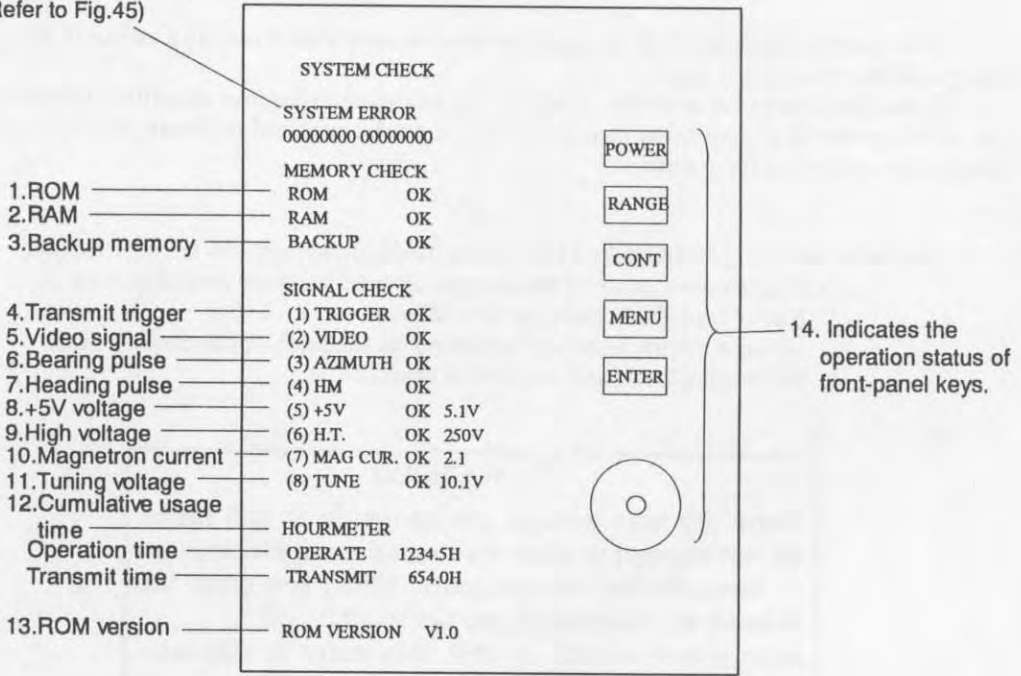

Fig. 44 Self-check screen
- (1) Press the MENU key to bring up a menu screen.
- (2) Using the cursor key, move the menu bar to "SETUP" and the box cursor to "SYSTEM CHECK".
- (3) Press the ENTER key. The screen shown in Fig.44 will appear.
- (4) While watching the screen, check the following:
- ① Whether all items are marked "OK". (If any item is marked "NG", the indicated location may be faulty.)
- ② Press a front-panel key and see if the corresponding display on the screen is highlighted.
- (5) Press the POWER key to return to the previous screen.